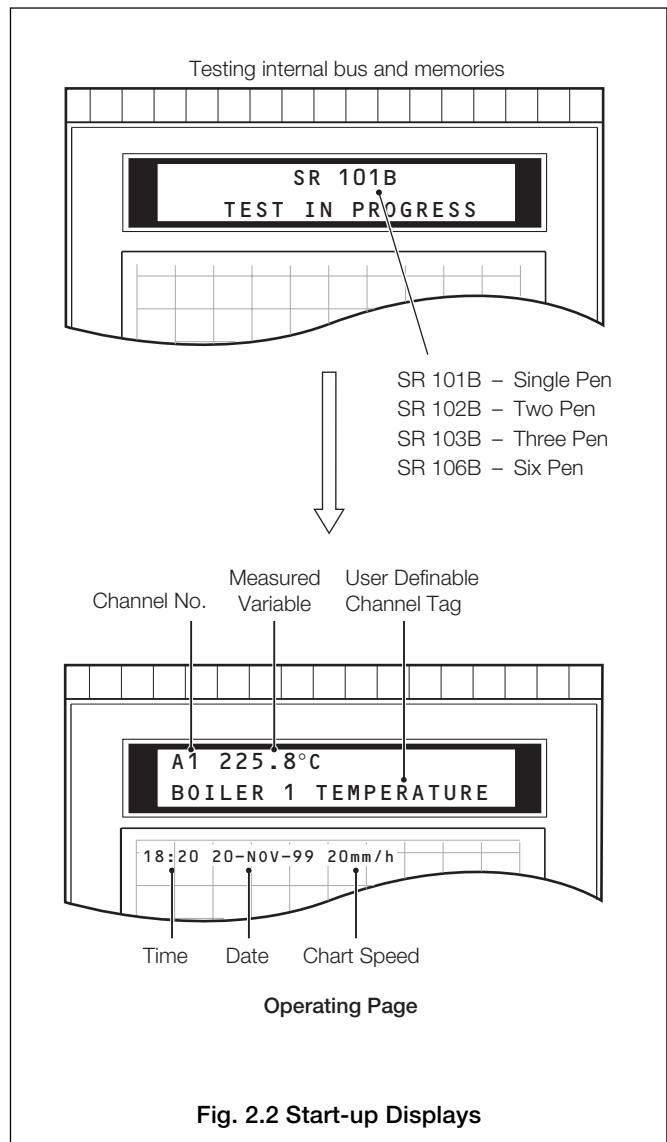

Fig. 2.2 Start-up Displays
2.1.2 Instrument Start-up – Fig. 2.2